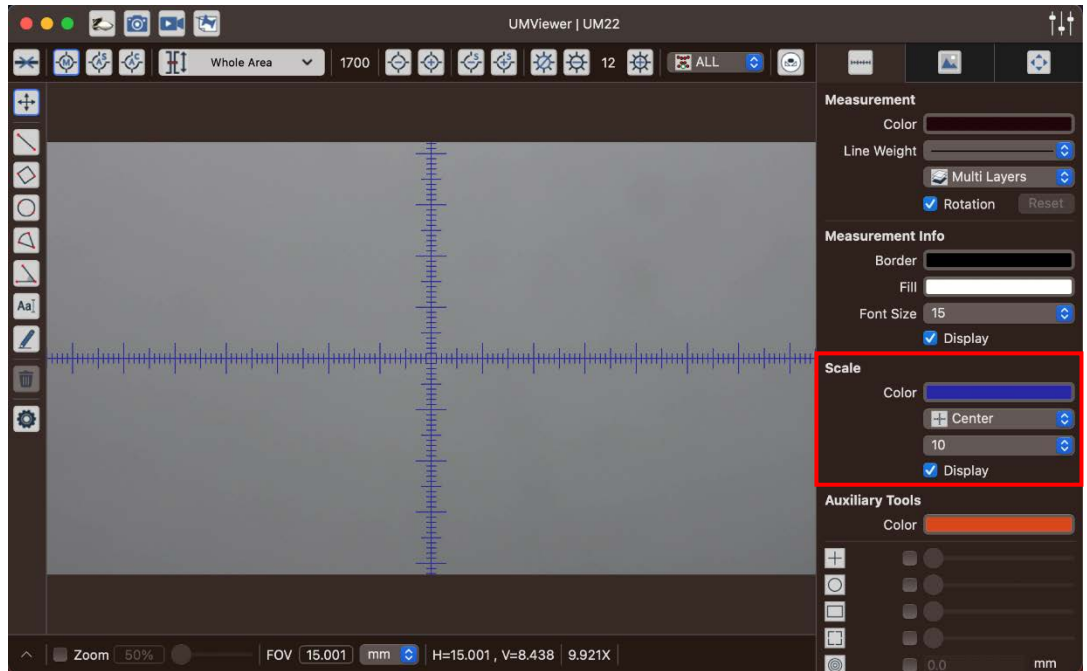

Figure 5-32 Scale setting block
- 3. Scale bar: Settings for the appearance of the scale bar, as shown in Figure 5-32.